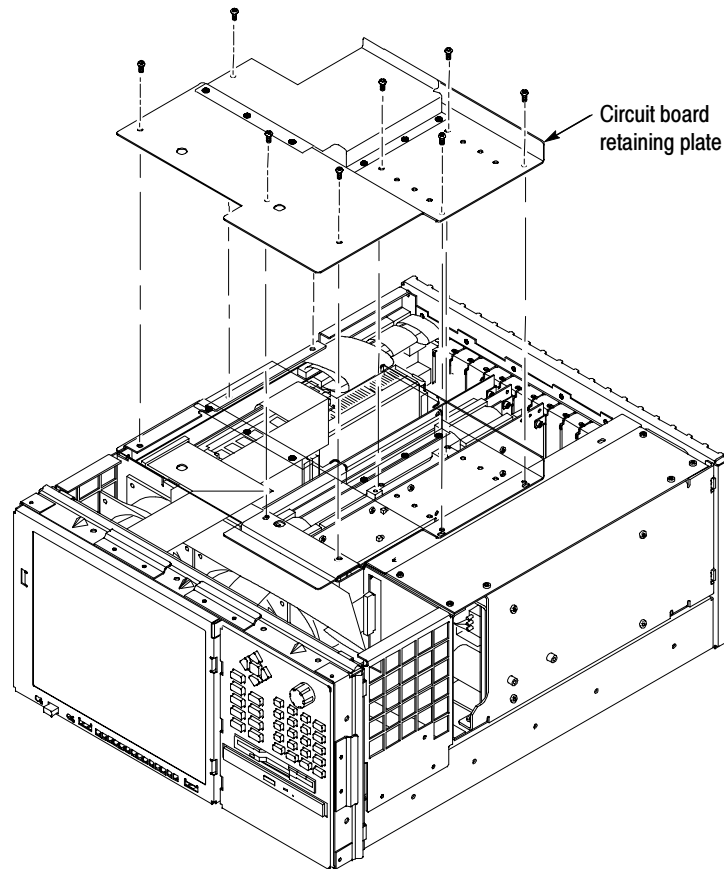

Figure 14: Install the new circuit board retaining plate
12. Place the new circuit board retaining plate, supplied in the kit, in position and secure with eight of the nine T15 screws from the old circuit board retaining plate (see Figure 14). Torque the screws to 8 in-lbs.